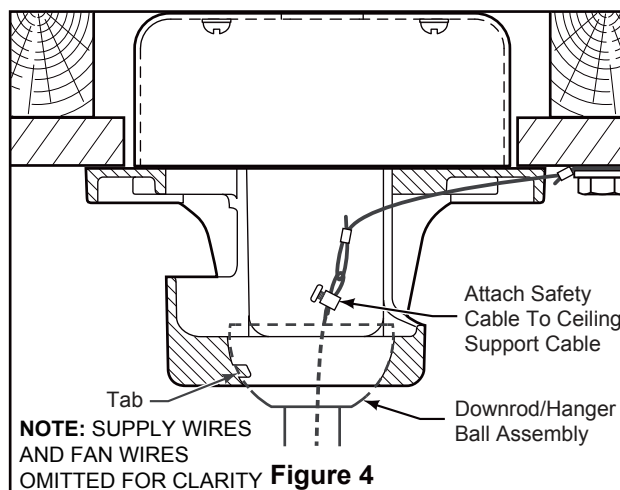

Figure 4
- 4. Slide downrod into the downrod support on top of the motor. Install the clevis pin by aligning the holes in the downrod support with holes in the downrod. Secure clevis pin with hairpin clip. Tighten the two set screws with nuts in the downrod support. (Figure 4)
4. Carefully lift the fan and seat the downrod/hanger ball assembly onto the hanger bracket that was just attached to the outlet box. Be sure the groove in the ball is lined up with tab on the hanger bracket. (Figure 4)
5. Attach the safety cable to ceiling support cable. Slide cable clamp and washer onto safety cable (from fan). Place the end of cable through the loop of ceiling support cable. Pull as much cable through loop as possible. Feed end of cable into clamp hole and firmly tighten screw. (Figure 4)
3. Connect green wires from hanger bracket and downrod to bare (ground) wire using wire connector. Connect black wire from receiver unit marked "AC IN L" to black supply wire using wire connector. Connect white wire from receiver unit marked "AC IN N" to white supply wire using wire connector. Connect white wire from receiver unit marked "TO MOTOR N" to white wire from fan using wire connector supplied with receiver unit. Connect black wire from receiver unit marked "TO MOTOR L" to black wire from fan using wire connector supplied with receiver unit. Lastly, connect blue wire from receiver unit to the blue fan light wire using wire connector supplied with receiver unit. (Figure 4)
- **4.** To set the remote code same positions as the receiver with a small screwdriver or ball point pen (neither included), slide dip switches firmly up or down. (Figure 4)